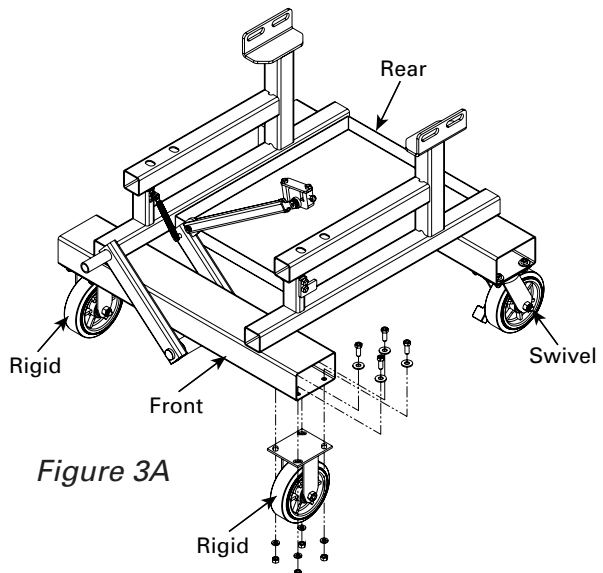

Figure 3A
1. Install casters on the High Rise Base. The two rigid casters mount on the front of the frame and the two swivel casters mount on the rear of the frame (See Figure 3A).